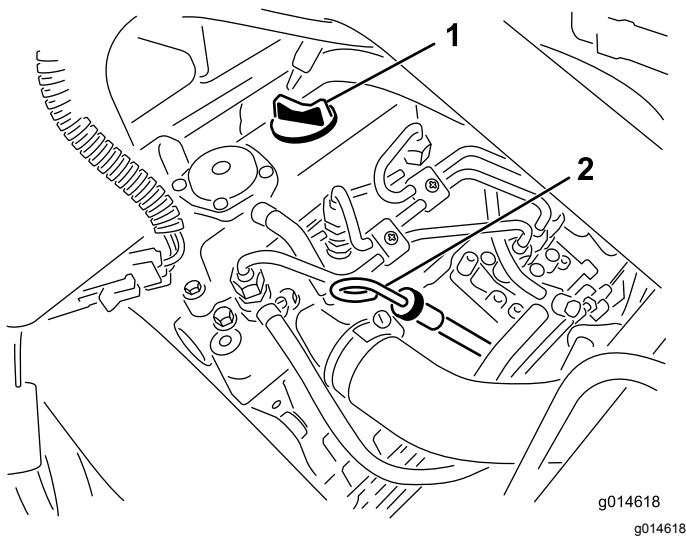

Figure 23
2. Remove the dipstick and wipe it with a clean rag (Figure 23).